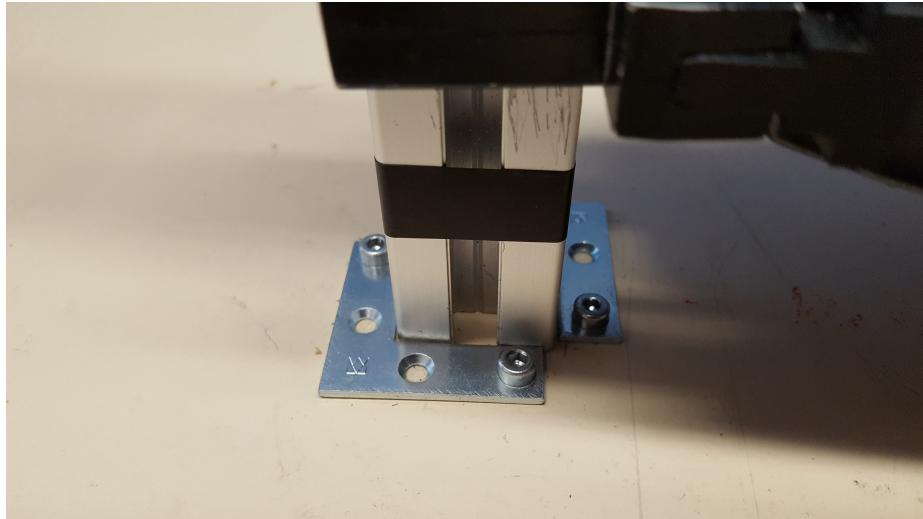

Figure 5: An object placed in the container; this ensures that the initial (grasping) position is constant
- The chosen object must be placed in the container properly in order to ensure that the picking pose is always the same. More precisely, the object must not be touching any part of the upper container's surface, i.e. it must be placed **in between** the four borders of the container (see figure 5).